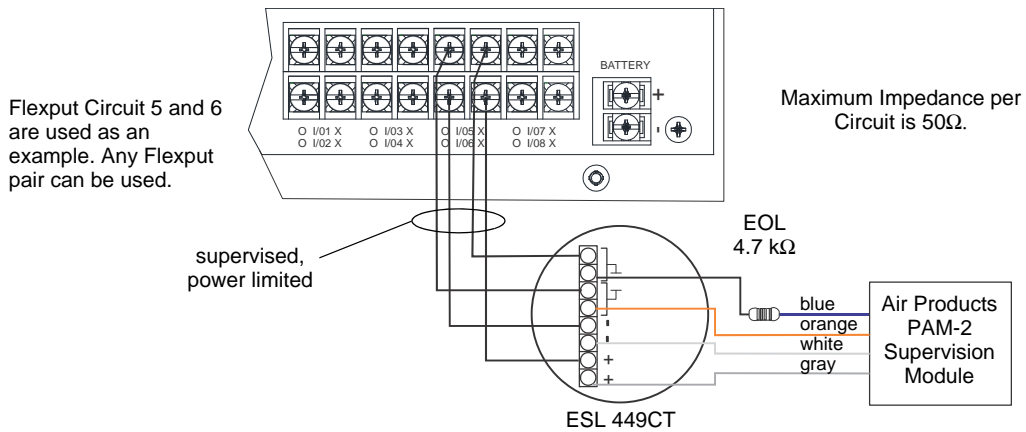

Figure 4.50 Class B 4-Wire Smoke Detector Connections
Any compatible, UL-listed four-wire smoke detector can be used with the control panel. Refer to the *Device Compatibility Document* for a list of devices. Figures 4.50 and 4.51 illustrate how to connect a UL-listed four-wire detector to the control panel.
Figure 4.50 illustrates how to install a 4-wire Class B smoke detector.
**NOTE:** In programming any point that uses multiple Flexput circuits, the lowest Flexput circuit number is used to refer to the circuit pair. For example, Figure 4.50 uses both Flexput circuit 5 and 6, so in programming it would be referred to as point 5.